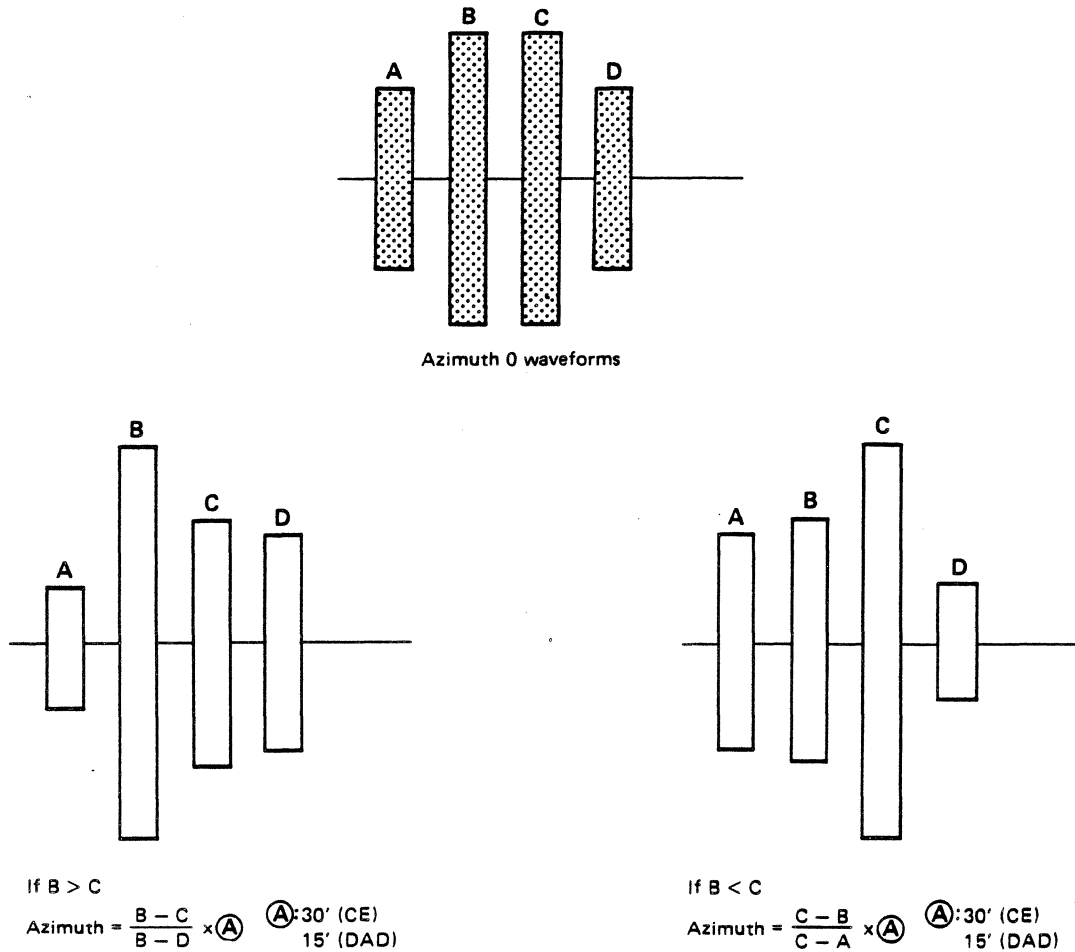

Fig. 4.4 Azimuth Waveforms
3. Synchronize oscilloscope on IX (- INDEX), and set time base to 20 ms/division (DAD) or to 0.5 ms/division (CE).
4. Connect one probe to T1 and the other to T2. Ground the probes to GND and AG. Set inputs to AC Add, and invert one channel. Set vertical deflection to 5 mV/division (DAD), or to 0.1 mV/division (CE).
5. Measure as shown in Fig. 4.4.